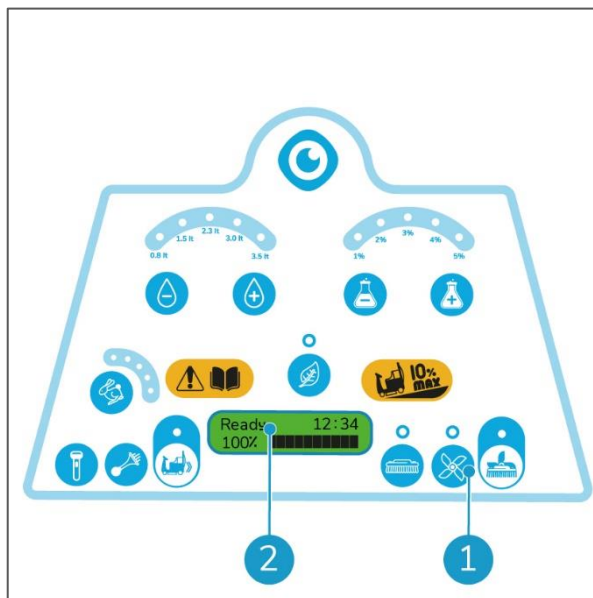

Figure 64
2. Turn the ignition key to position "I". After a few seconds the text "Ready" appears on the display (Figure 64, pos 2).
3. Press the push button (Figure 64, pos 1). The squeegee moves to its lowest position.
14. Turn the ignition key to position "I". After a few seconds the text "Ready" appears on the display ( Figure 64, pos 2).